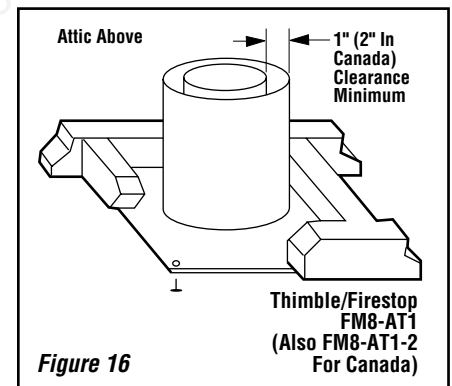

Figure 16
Step 3. Position appropriate thimble/firestop spacer combination at ceiling and nail temporarily with two (2) 8d nails or equivalent fasteners (see **Figures 16, 17 and 18**). Use one fastener on opposite sides to hold thimble/firestop spacer combination in position.